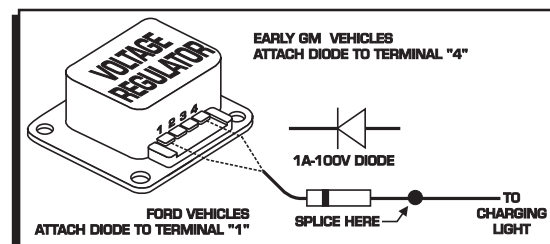

Figure 9 Installing the diode to a GM or Ford Vehicle.
**Note:** Diodes are used to allow voltage to flow only one way. Make sure the Diode is installed facing the proper direction (as shown in Figure 9).